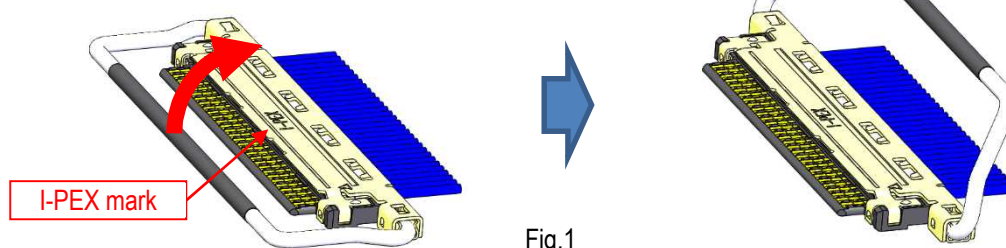

Fig.1
- ① Rotate the Pull bar toward the I-PEX mark side of the plug connector. (Fig.1)